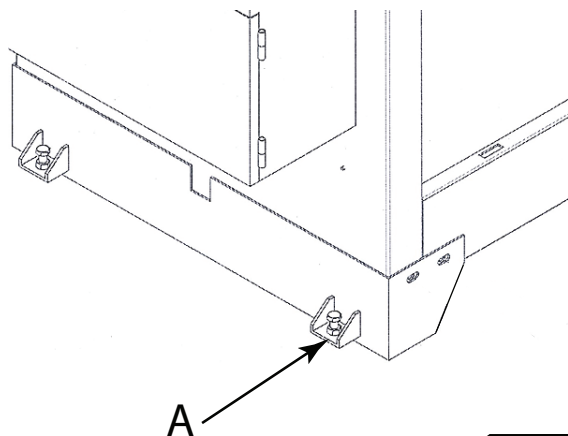

Fig. 1
2. Remove the four (4) nuts and washers holding the band saw to the pallet.
4. Attach the base frame cover (Fig. 1). Install the M12 nuts (4pcs). Install the hex head screws and flat washers into the saw base, then tighten using a 19mm wrench.
8. To level, adjust the bolts on each corner (A, Fig. 1) until the unit is level in both directions. Tighten the jam nuts against the mounting foot.